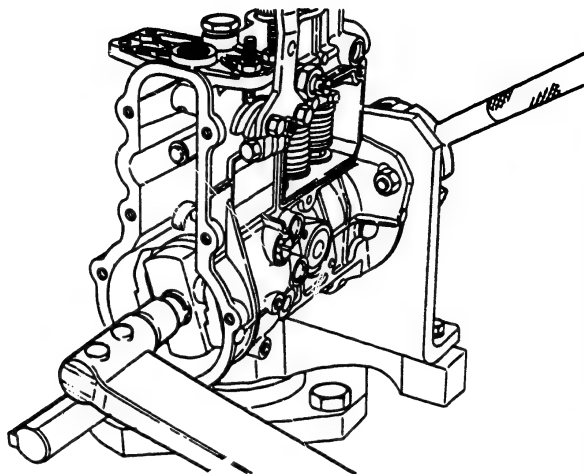

**Fig. 82**
13. Measure the resistance due to friction when the control rack is being extended from the position where it is fully inserted (Fig. 82)